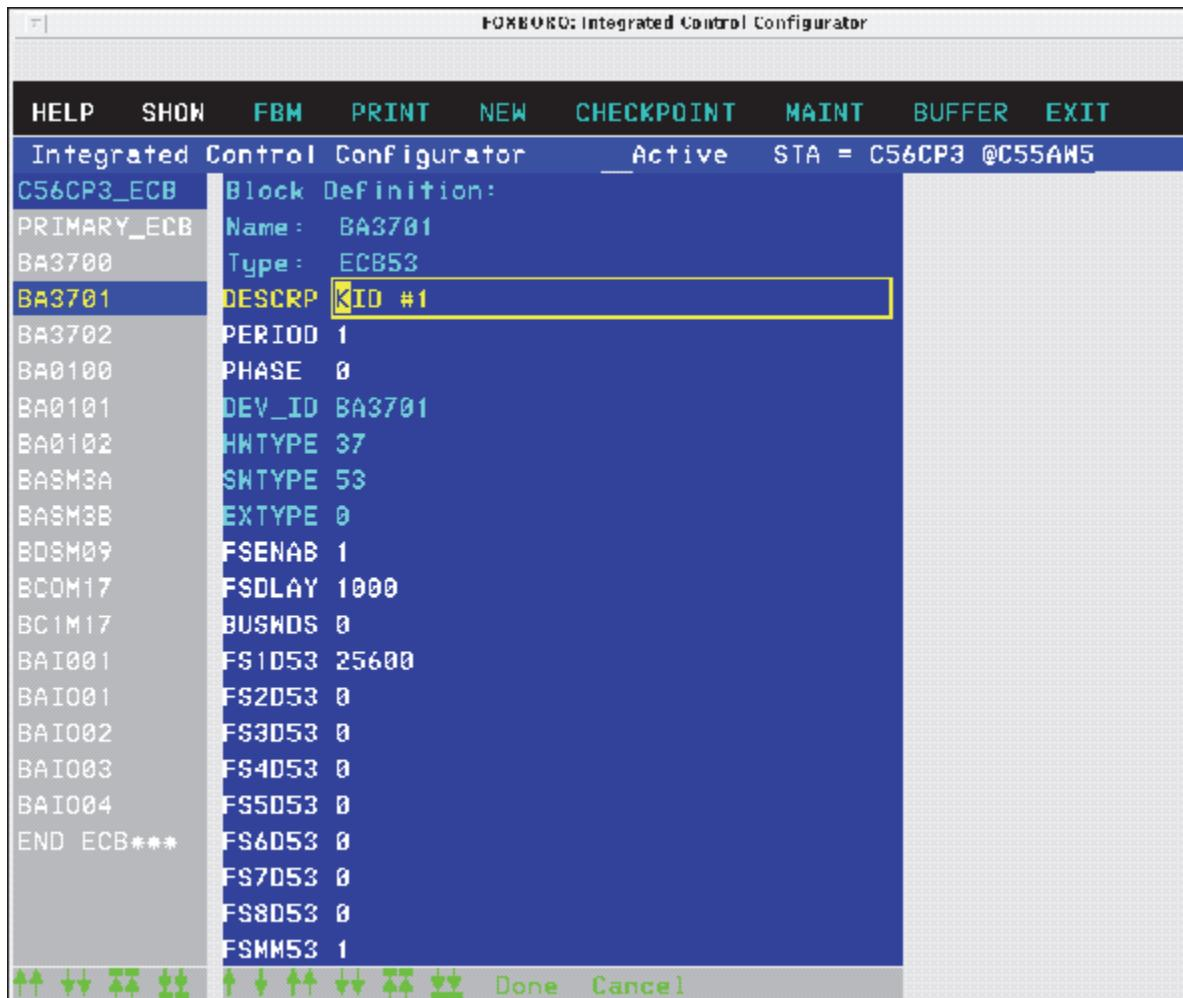

Figure D-17. Example Configuration, First FBM37 ECB (BA3701) for BASO37 (SMDH)
- ◆ The last character of the first FBM37's ECB DEV_ID must be **1**, as shown in Figure D-17.